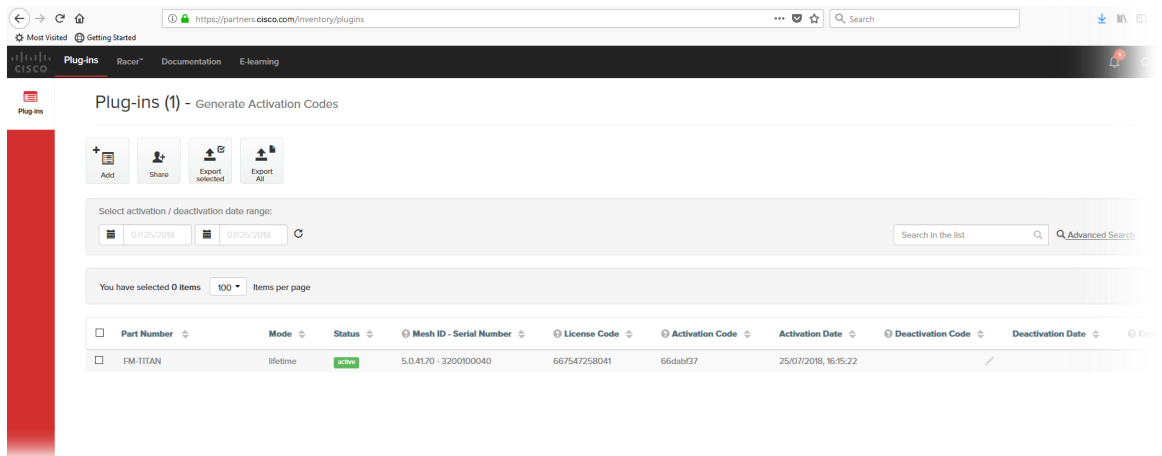

Figure 68. Partner Portal Plug-ins page (License code deactivation)
- The Plug-ins web page will be shown (Figure 68 \(page 148\)).